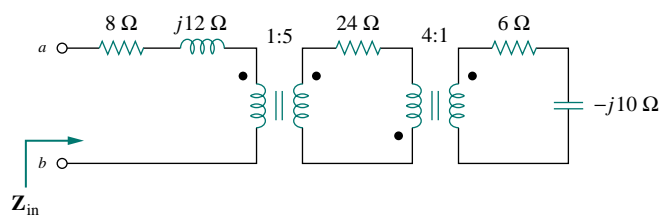

Figure 13.101 For Prob. 13.34.
- 13.34** Calculate the input impedance for the network in Fig. 13.101 below.